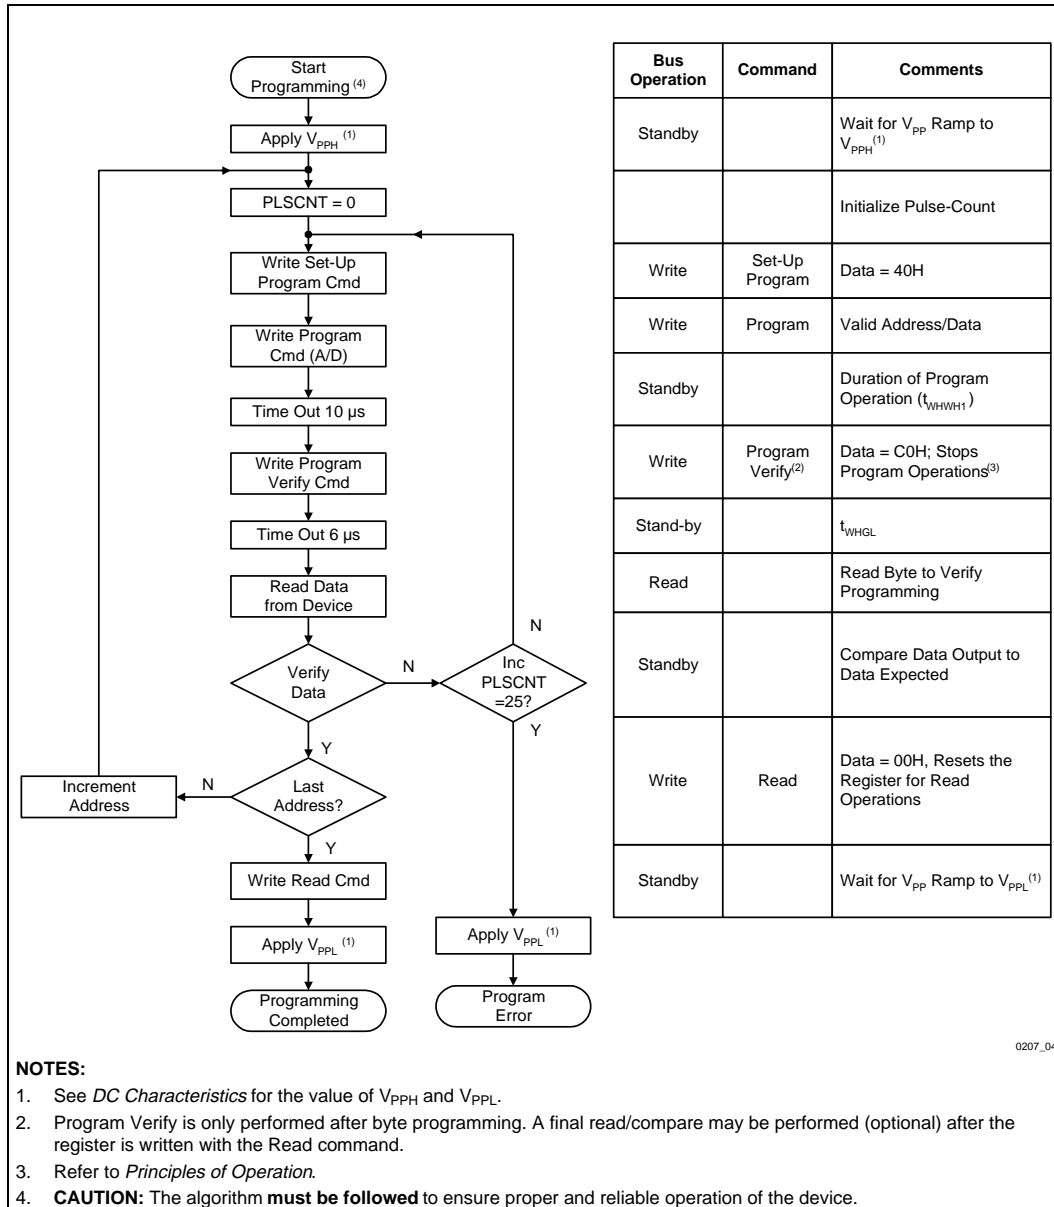

Figure 4. 28F010/28F020 Quick-Pulse Programming Algorithm
- Figure 4 illustrates the *28F010/28F020 Quick-Pulse Programming Algorithm* flowchart.
The quick-pulse programming algorithm uses programming operations of 10 μ s duration. Each operation is followed by a byte verification to determine when the addressed byte has been successfully programmed. The algorithm allows for up to 25 programming operations per byte, although most bytes verify on the first or second operation. The entire sequence of programming and byte verification is performed with V_{PP} at high voltage. Figure 4 illustrates the *28F010/28F020 Quick-Pulse Programming Algorithm* flowchart.